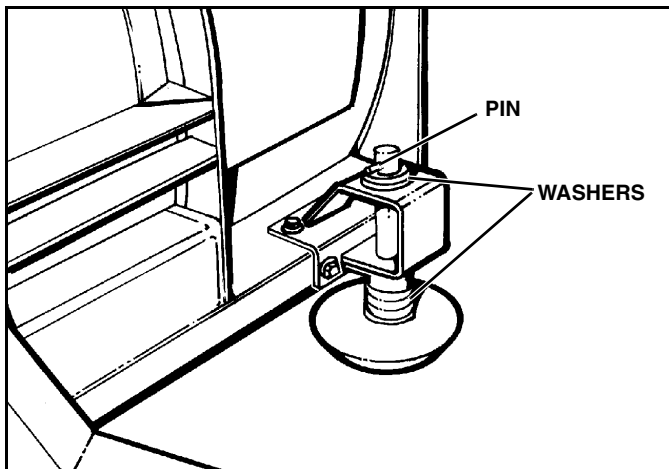

Figure 1-19
14. Adjust each disk shoe assembly by removing disk shoe mounting pin and adding or subtracting washers on the top or bottom of the disk shoe mounting bracket as required according to measurements taken in step #11. (See Figure 1-19).